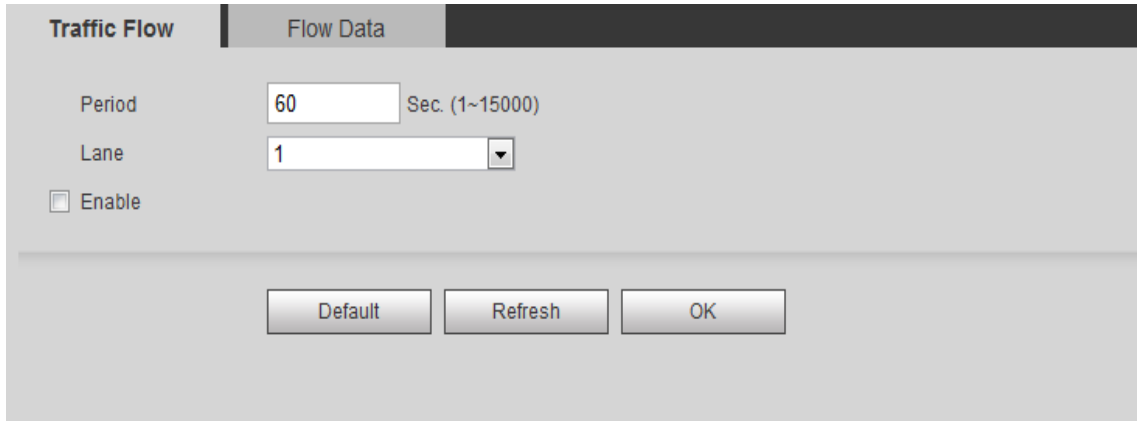

Figure 6-45
Step 1. Select Setting>ITC>Traffic Flow>Traffic Flow. See Figure 6-45.